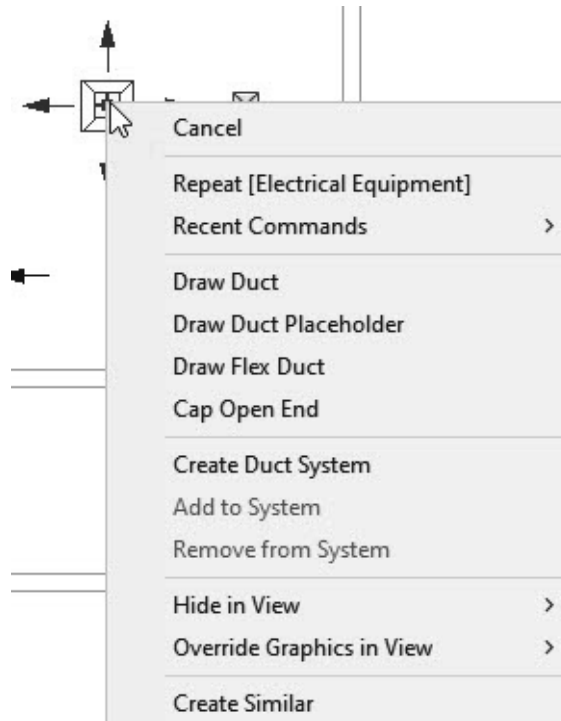

Figure 2–42
3. Right-click on the control and look at the variety of options you can use, as shown in Figure 2–42.